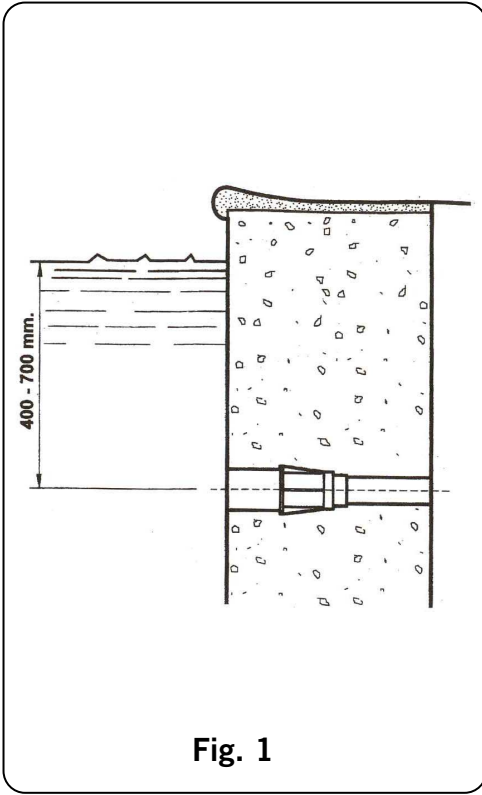

Fig. 1
1. Install the wall conduit in the concrete wall, at a distance of 400-700 mm. below the water level (Fig. 1).
1. The light should be installed at approximately 400 mm below the water-level of the SPAs and in a place where it cannot easily be covered by the body of a person. Install it preferably in the wall of the steps at the entrance of the SPAs (Fig.1).
To install a floodlamp in a concrete pool the housing (n.13) should be fixed in the wall of the swimming pool (Fig.1). Use eight M6x24 (n.5) screws to secure the housing clamp to the pool.